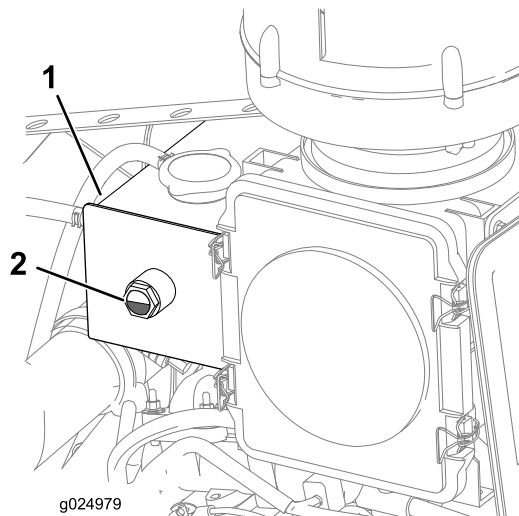

Figure 25
4. Check the coolant level in the reservoir (Figure 25).
Note: Ensure that the coolant level is between 1/4 and 3/4 of the way up in the sight glass (Figure 25).